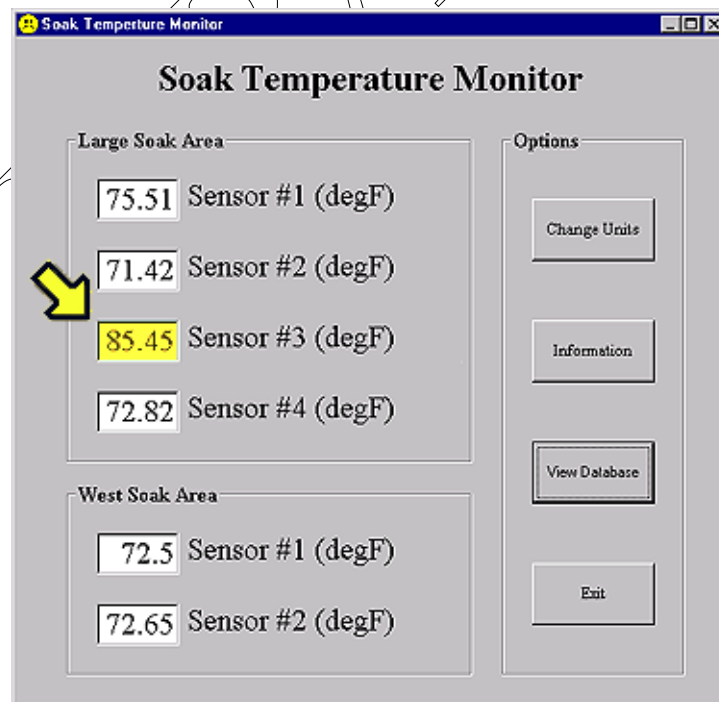

Figure 4
- 104 If the soak area temperature is within 2 •F of violating the 68 - 86 •F requirement, the text-box background color will turn yellow and an audible warning will be emitted, to alert the technician that an out-of-tolerance temperature condition may be eminent. See the arrow in Figure 4.